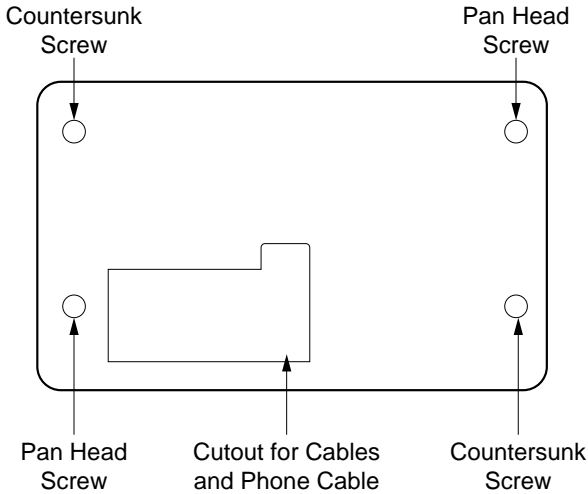

Figure 4 Link 1000 Mounting Plate
3. Screw the mounting plate to the mounting surface as shown in Figure 4.